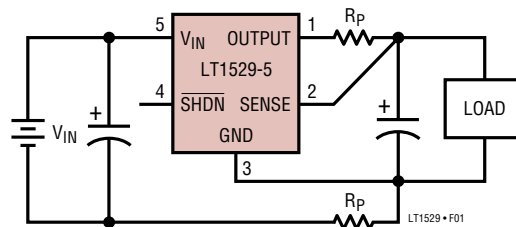

Figure 1. Kelvin Sense Connection
**SENSE (Pin 2):** SENSE Pin. For fixed voltage versions of the LT1529 (LT1529-3.3, LT1529-5) the SENSE pin is the input to the error amplifier. Optimum regulation will be obtained at the point where the SENSE pin is connected to the output pin. For most applications the SENSE pin is connected directly to the OUTPUT pin at the regulator. In critical applications small voltage drops caused by the resistance ( $R_P$ ) of PC traces between the regulator and the load, which would normally degrade regulation, may be eliminated by connecting the SENSE pin to the OUTPUT pin at the load as shown in Figure 1 (Kelvin Sense Connection). Note that the voltage drop across the external PC traces will add to the dropout voltage of the regulator. The SENSE pin bias current is 15µA at the nominal regulated output voltage. This pin is internally clamped to  $-0.6\text{V}$  (one  $V_{BE}$ ).